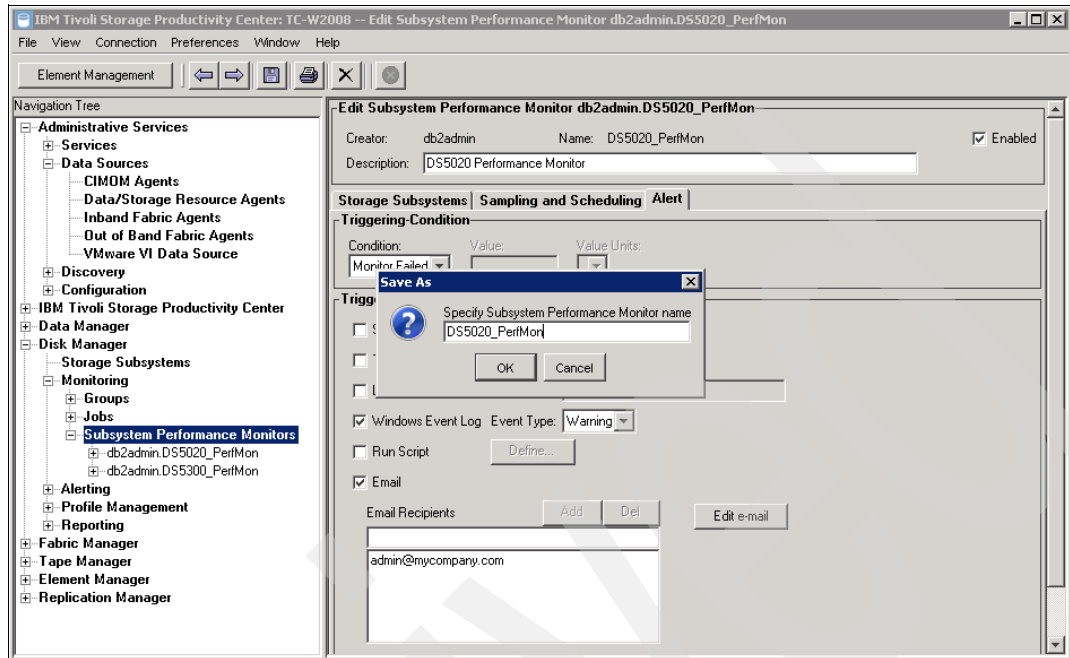

Figure 9-26 Save Performance Monitor job
4. Select **File** → **Save** to save the job and specify the job name when prompted, as shown in Figure 9-26.